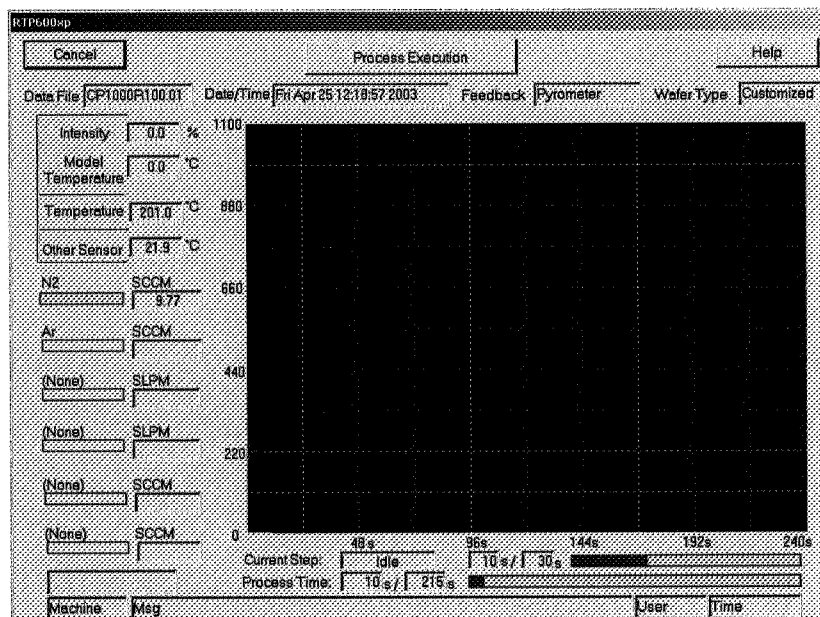

Figure 3-9. **Process Execution Screen**
- After initializing, the **Process Execution** screen will appear (see **Figure 3-9**). The **Process Execution** screen shows the process data in real-time. All process parameters are displayed on the screen, both the recipe values and the actual measured values.